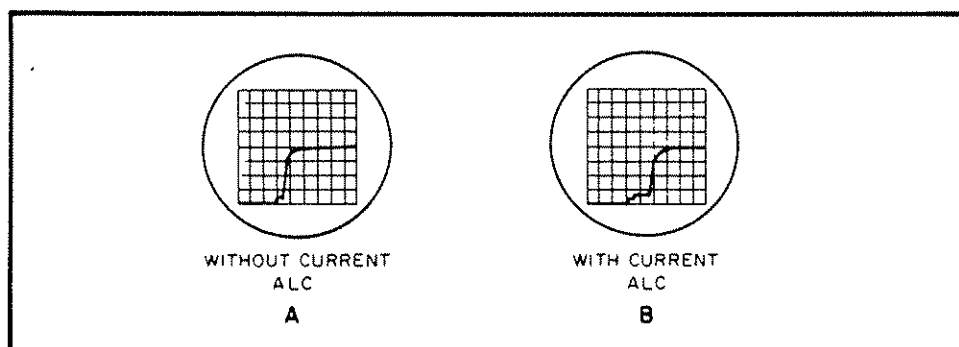

Figure 5.3 Current ALC Wave Form
- j. To remove the Interface board, remove the one holding screw in the upper left hand corner (looking at the rear of the board.) Rotate the board clockwise out of its socket. Figure 5.3 shows the Filter module with the Interface board removed.